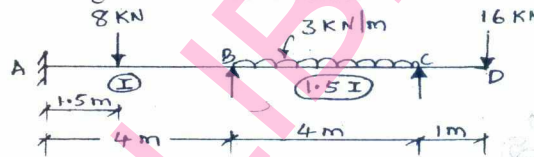

Fig.Q2
- 2 Analyse the continuous beam shown in Fig.Q2 by Slope Deflection Method. Draw Bending moment diagram, shear force diagram and elastic curve. (20 Marks)